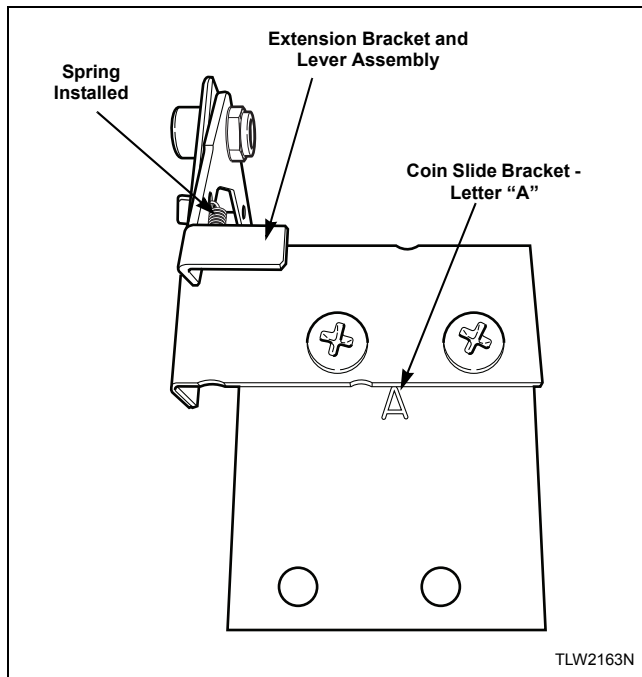

Figure 36
5. Install extension bracket and lever assembly onto coin slide bracket using two screws and locknuts. Refer to *Figure 36*.
IMPORTANT: Install coin slide bracket with side marked “A” facing up and toward extension bracket and lever assembly. Refer to *Figure 36*.